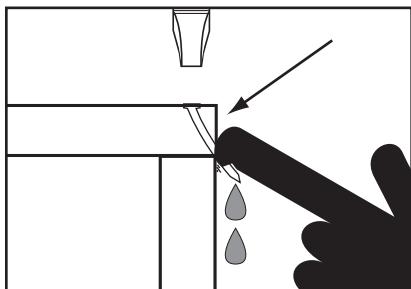

Figure 6. Example of staple deflection.
- Before pulling the trigger, make sure your free hand and other body parts are positioned out of the way of a potential path of a staple in case of deflection (illustrated below in **Figure 6**).